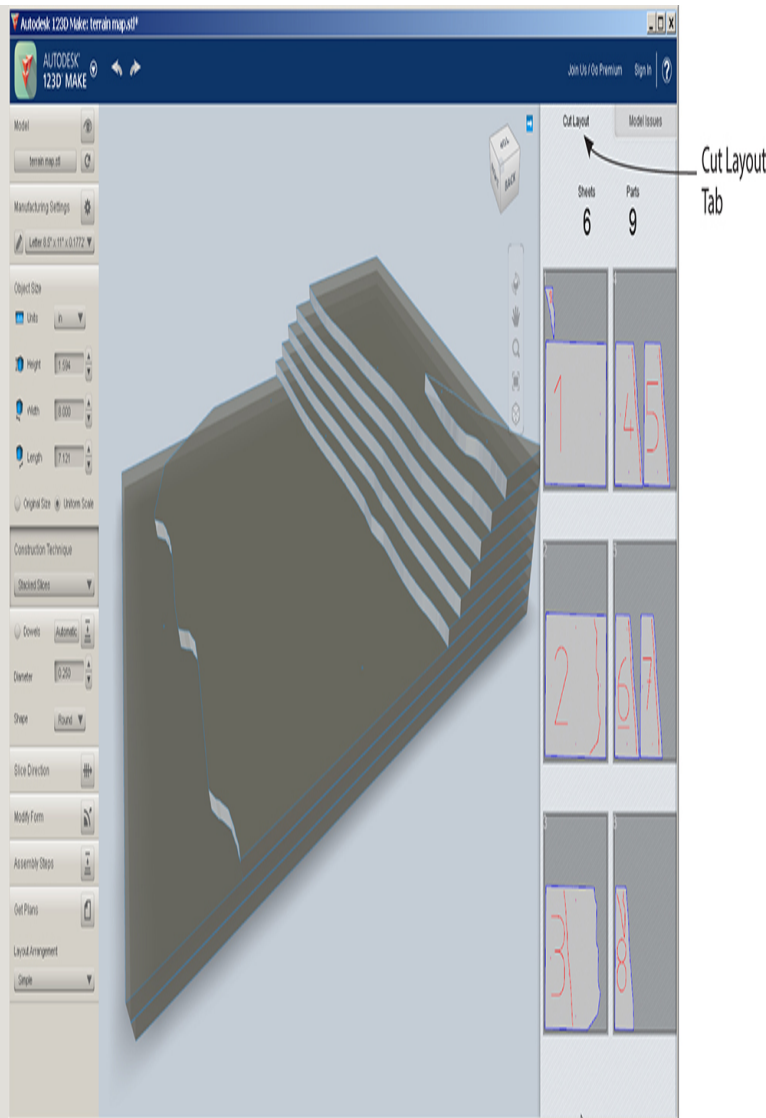

Figure 7-15 The Stacked Slices option turns the model into cross-sectional slices.
1. Click on the Stacked Slices technique. This makes cross-sectional slices for gluing and stacking on top of each other (Figure 7-15), which is how physical terrain models are made. Note the graphics under the Cut Layout tab.